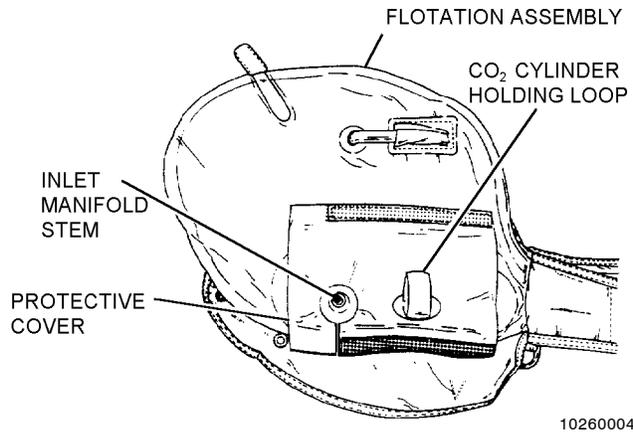

Figure 26-4. Installation of Inflation Valve Protective Cover
2. Place inflation valve protective cover upon the life preserver. Ensure that inlet manifold stem hole and CO₂ cylinder holding loop hole are aligned according to figure 26-4.
7. Close inflation valve protective covers; then secure with hook and pile tape provided. See figure 26-4.